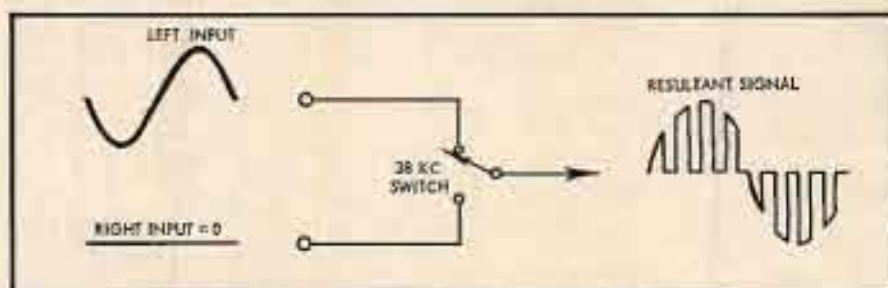

Fig. 5. A 38-kc switch and the resultant signal.
The following method is used to generate the stereo multiplex signal. If a switch connected between the left and right modulation inputs, as shown in (A) of Fig. 5, were to sample between the left and right signals at a rate of 38 kc, then the resultant signal would look like the one shown in (B) of Fig. 5. For one half-cycle (of 38 kc), the output signal follows the left input signal, then the switch flips over to the right input. Since there is no right signal the output voltage will be zero for the next half-cycle of the 38-kc driving signal. Then the switch flips back to the left input and the output voltage again follows the left signal, and so on.
It is of interest to note that we have derived the signal by simply connecting a 38-kc switch between the left and right inputs—no complicated suppressed-carrier modulator, no matrixing, no filters, no phase shift, and no carrier suppression to worry about. To make an FCC-acceptable stereo signal out of the signal shown in Fig. 5, it is only necessary to pass it through a low-pass filter.